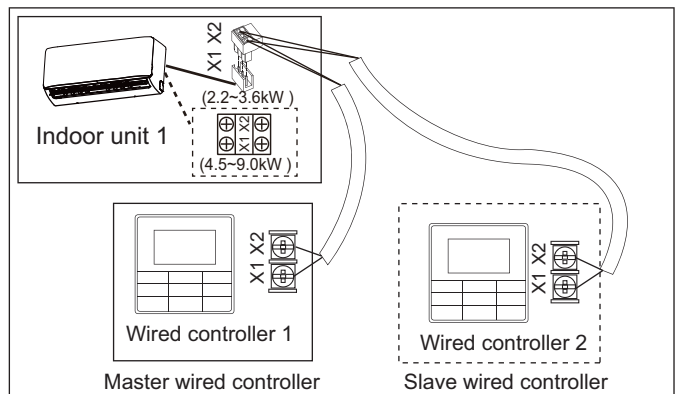

Figure 6.8
- Use 1 wired controller to control 1 indoor unit or 2 wired controllers (one master and one slave controller) to control 1 indoor unit (see Figure 6.8);